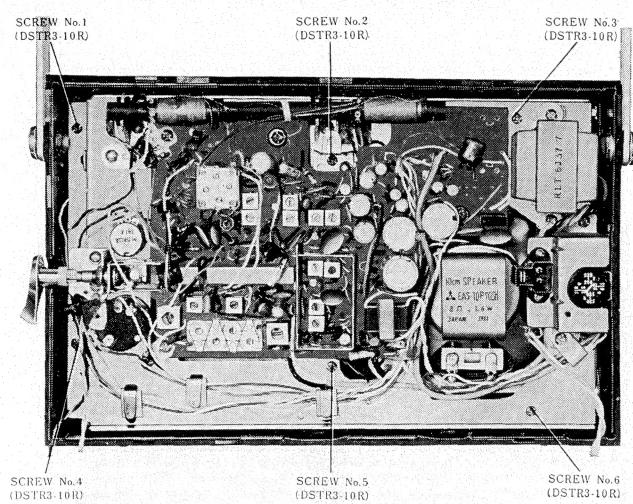

Fig. 1 Top View—Disassembly Points
To Remove Chassis (Refer to fig. 1)
1. Remove three (3) control knobs from cabinet front.
2. Remove three (3) cabinet back cover mounting screws.
7. Remove six (6) red screws chassis mounting screws Nos. 1~6, as illustrated in fig. 1.
Notes: Replace earphone/external speaker or phono jack, as illustrated, in fig. 1.